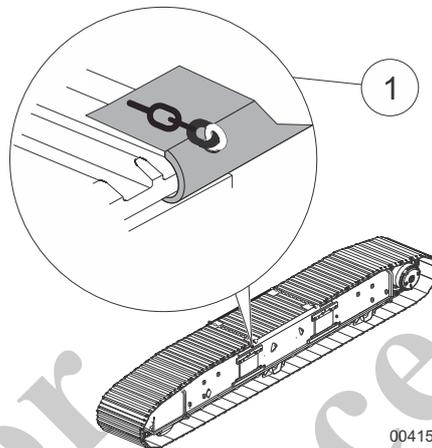

Fig. 111 Attaching the edge guard to the crawler track
- 5 Attach the included edge guard (1) in Fig. 111 to the crawler track.